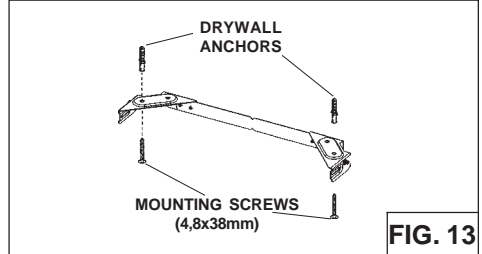

FIG. 13
3. Secure the bracket assembly to the ceiling using (2) 4.8 x 38mm mounting screws and drywall anchors (Fig.13). Make sure the bracket is pushed into the corner, tight against the wall if necessary, and centered over the hood. Complete the installation.